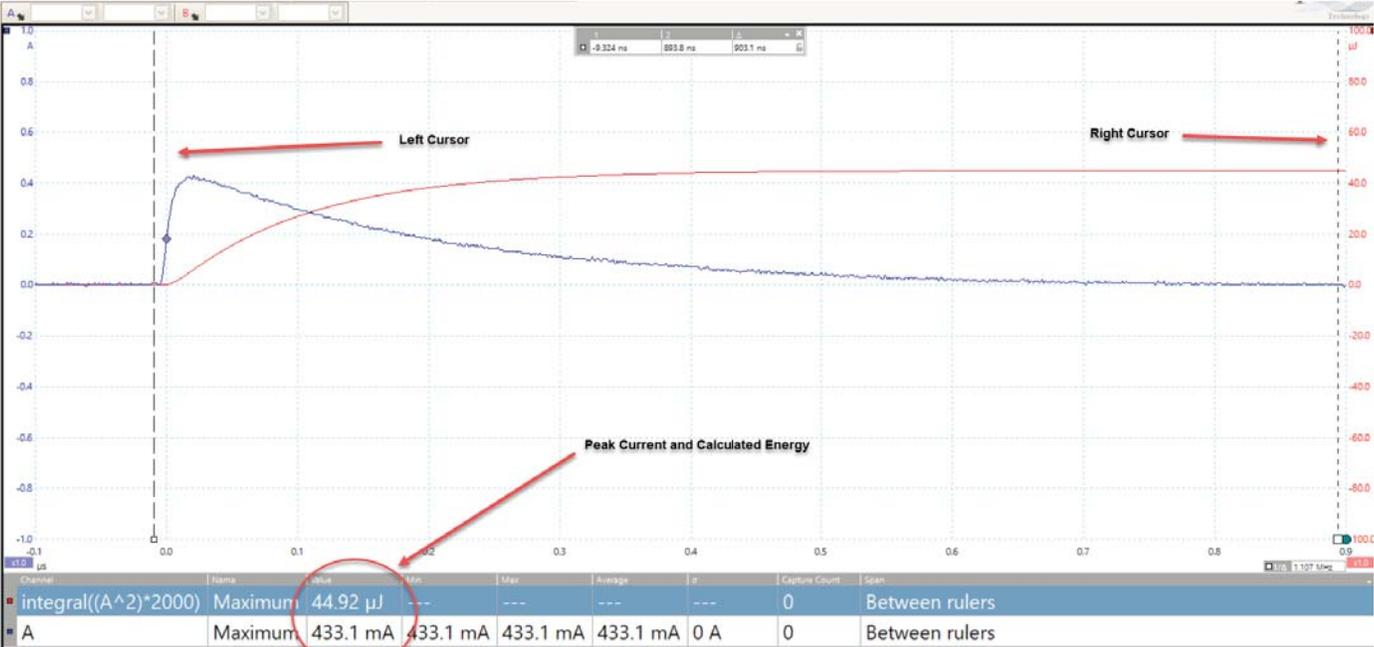

Figure 8: Screenshot of the PicoScope software measuring the energy.
- O. Using the computer mouse drag the left scope cursor (vertical dotted line) to the left of the discharge waveform start and the right cursor to the point where the waveform decays to zero. The calculated energy should be 50 ± 6 μ J (microjoules) and the peak current should be greater than 420 mA (milliamps 0.42 amps). The blue line is the discharge waveform and the red line is the calculated energy curve in microjoules (Figure 8).